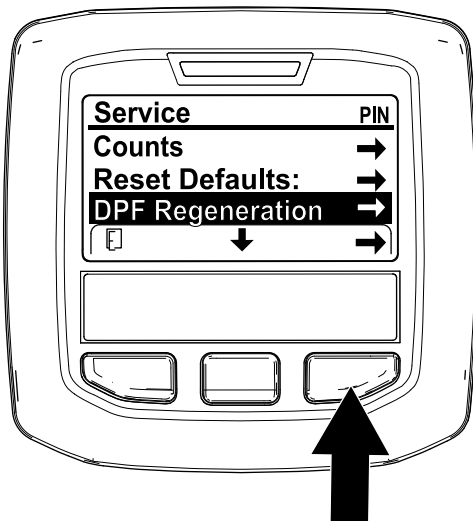

Figure 34
1. Access the Service menu, press the center button to scroll down to the DPF REGENERATION option (Figure 34).
2. Press the right button to select the DPF Regeneration entry (Figure 34).